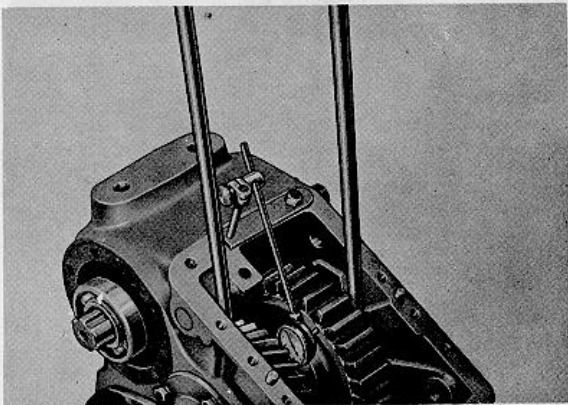

Fig. 35.
25. Mount a dial indicator on case with stem set against inside face of Lo gear. Check the amount of end play by working assembly back and forth with two prybars as shown (Fig. 35). Remove sufficient shims to arrive at a bearing adjustment of .076 mm .127 mm (.003" - .005") end play.